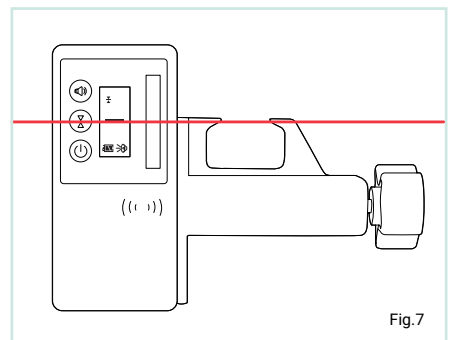

Fig.7
- When the level position has been located, the speaker will emit a constant beep and show the centre alignment line on the LCD screen (Fig.7).